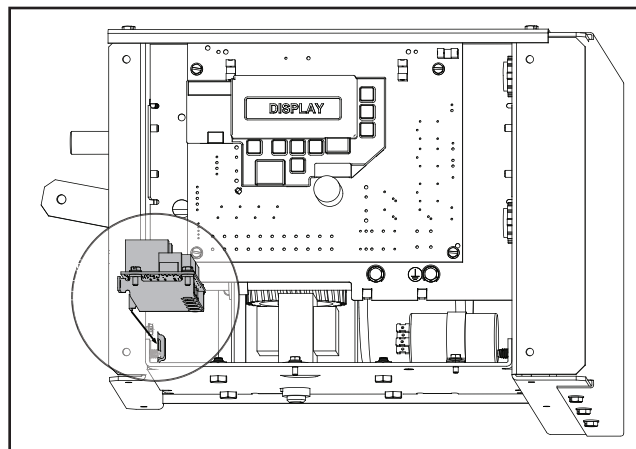

Figure 6
- 4) Insert module into the area indicated and slide front mounting tab into slot on side panel of CDX® enclosure. **FIG. 6 & 7.**